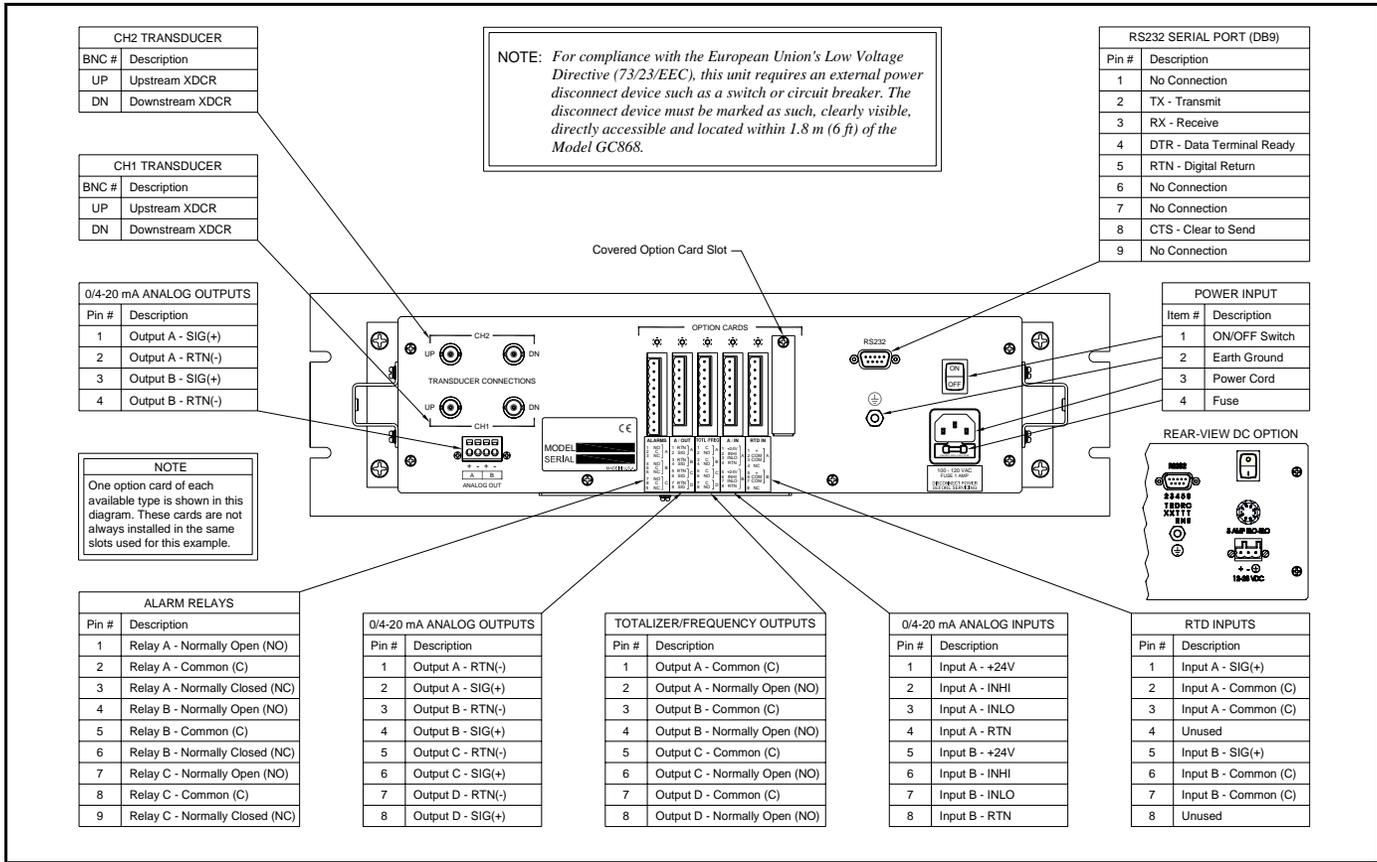

Figure C-2: Model GC868 Rock Mount Enclosure - Wiring Diagram
The rack mount Model GC868 requires exactly the same electrical connections as the standard version. However, the locations and type of connectors used for the various components are different. Refer to Figure C-2 on page C-4 and complete the following steps:
- a. Purchase or prepare a suitable serial cable. This cable should have a standard female DB9 connector, wired as shown in Figure C-2 on page C-4, for connection to the rear panel of the Model GC868. The other end should be as required for the external device.
5. Wire any installed *option cards* using the same procedures described in Chapter 1, *Installation*, of this manual and the pin # assignments shown in Figure C-2 on page C-4.